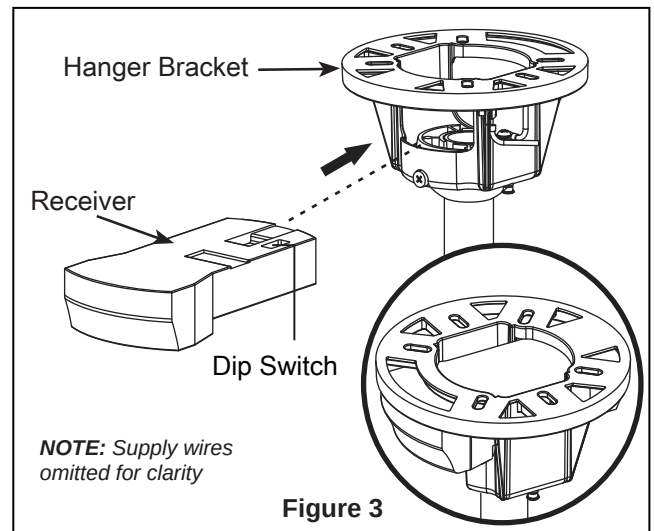

Figure 3
- ☐ 3. Push the canopy trim ring assembly up to conceal the screws, such that the mounting tabs seat into the dimpled grooves in the ceiling canopy midway between the screws. (Figure 3)